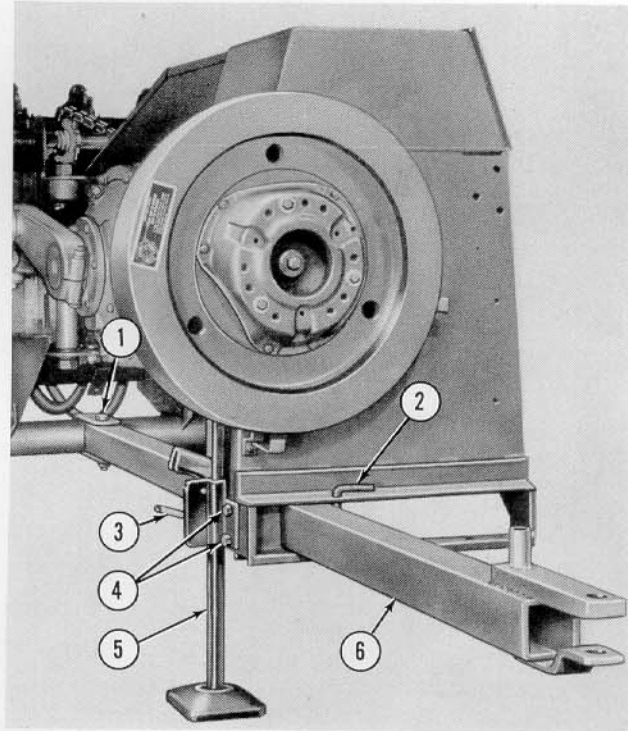

Figure 41
(6), Figure 41, through the tongue support bracket as shown and attach it to the axle with the $\frac{5}{8}$ " x $4\frac{1}{4}$ " hex head bolt and castellated nut (1). Secure the nut with a cotter pin.
2. Insert the pin (2), Figure 41, through the holes in the tongue support bracket to secure the tongue. Use the extreme left position for field operation and the extreme right position (as shown) for transport purposes.
3. Attach the jack stand (5), Figure 41, and ratchet housing to the baler with the four $\frac{3}{8}$ " x $1\frac{1}{4}$ " hex head bolts and lockwashers (4). Set the ratchet lever (3) as directed on the jack to raise or lower the baler.